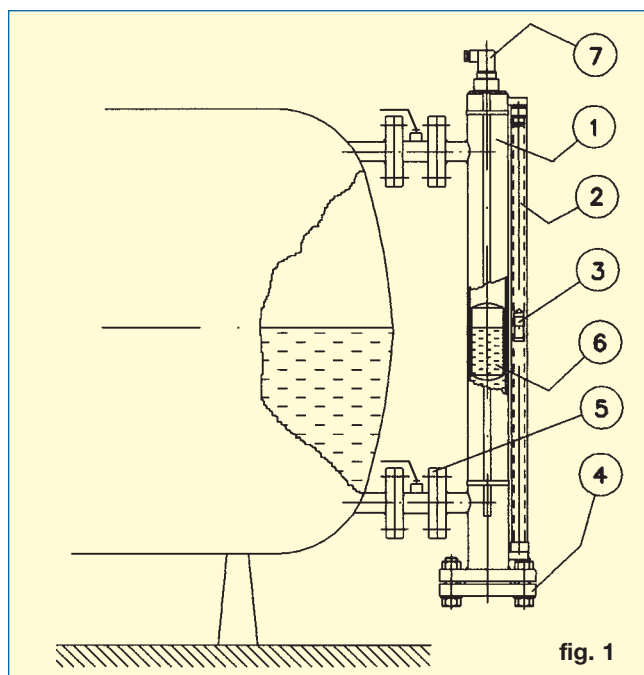
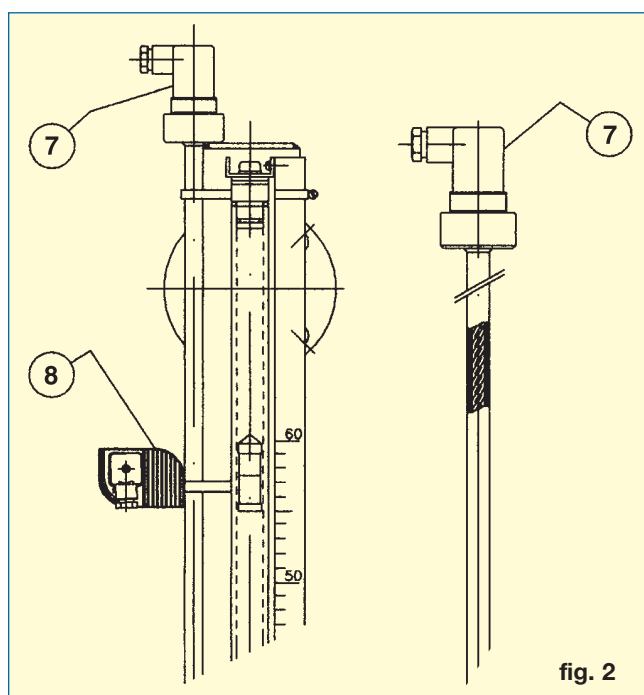

fig. 1
fig. 2
- Visual indication by float (LT) or magnetic strip (LTL)
- Adjustable alarm points (Hi/Lo), fig.2, n°8
- 0...4-20 mA transmitter signal, fig. 1/ fig. 2, n°7